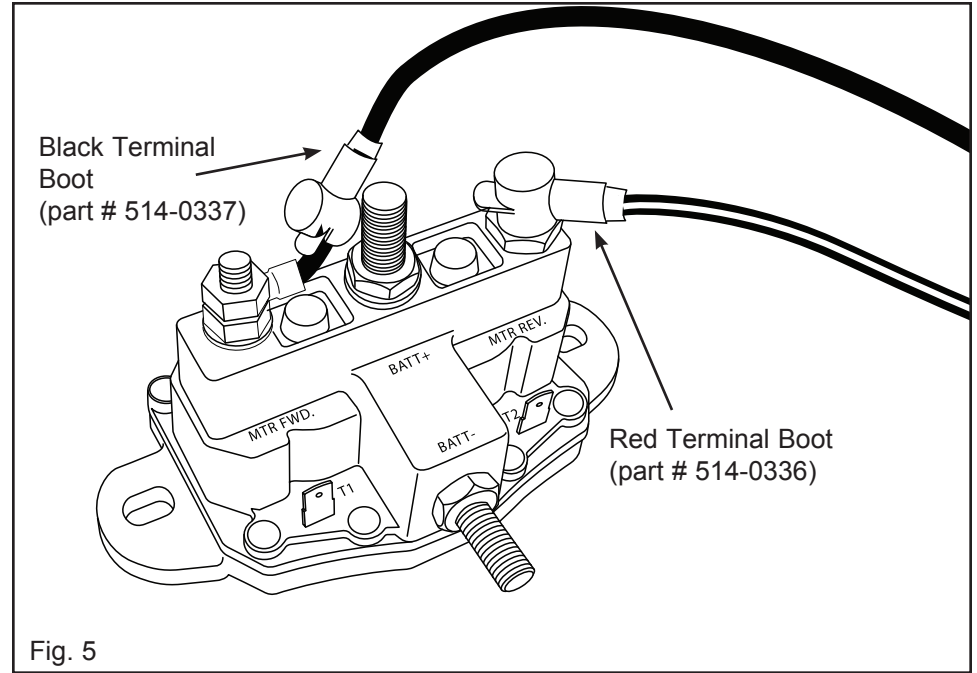

Fig. 5
- D. Attach Red to MTR and Black to MTR FWD on Solenoid (Fig. 5).